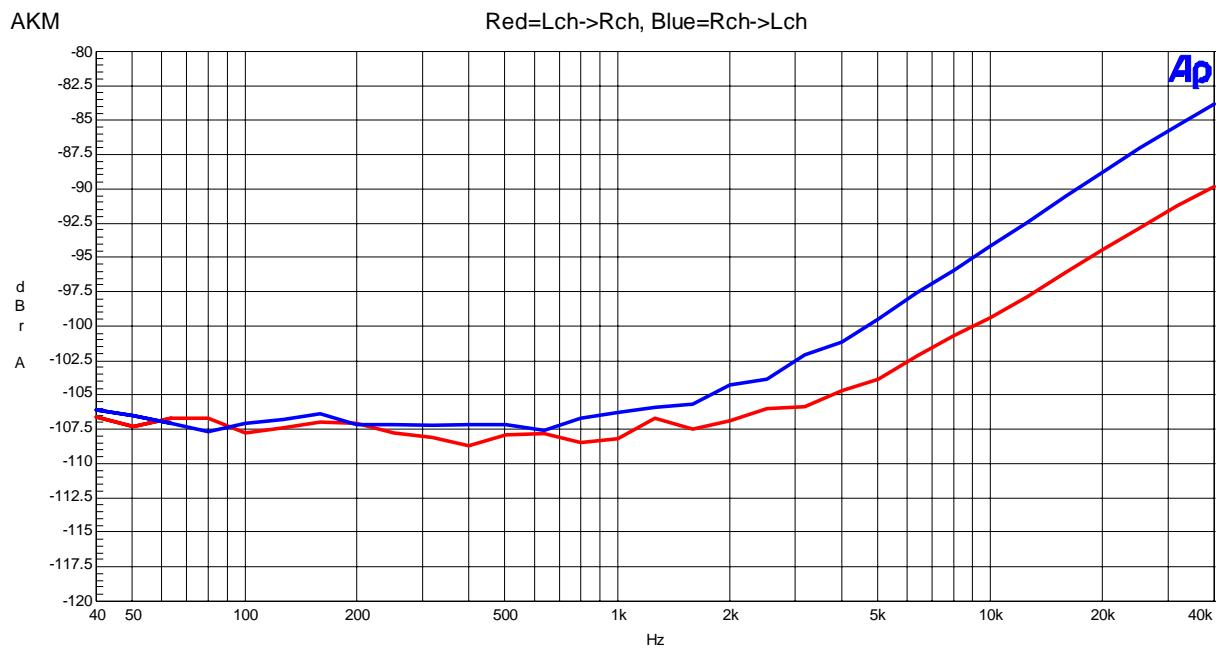

Figure 40 Cross-talk (Input level=0dBFS)
- Figure 40 Cross-talk (Input level=0dBFS)